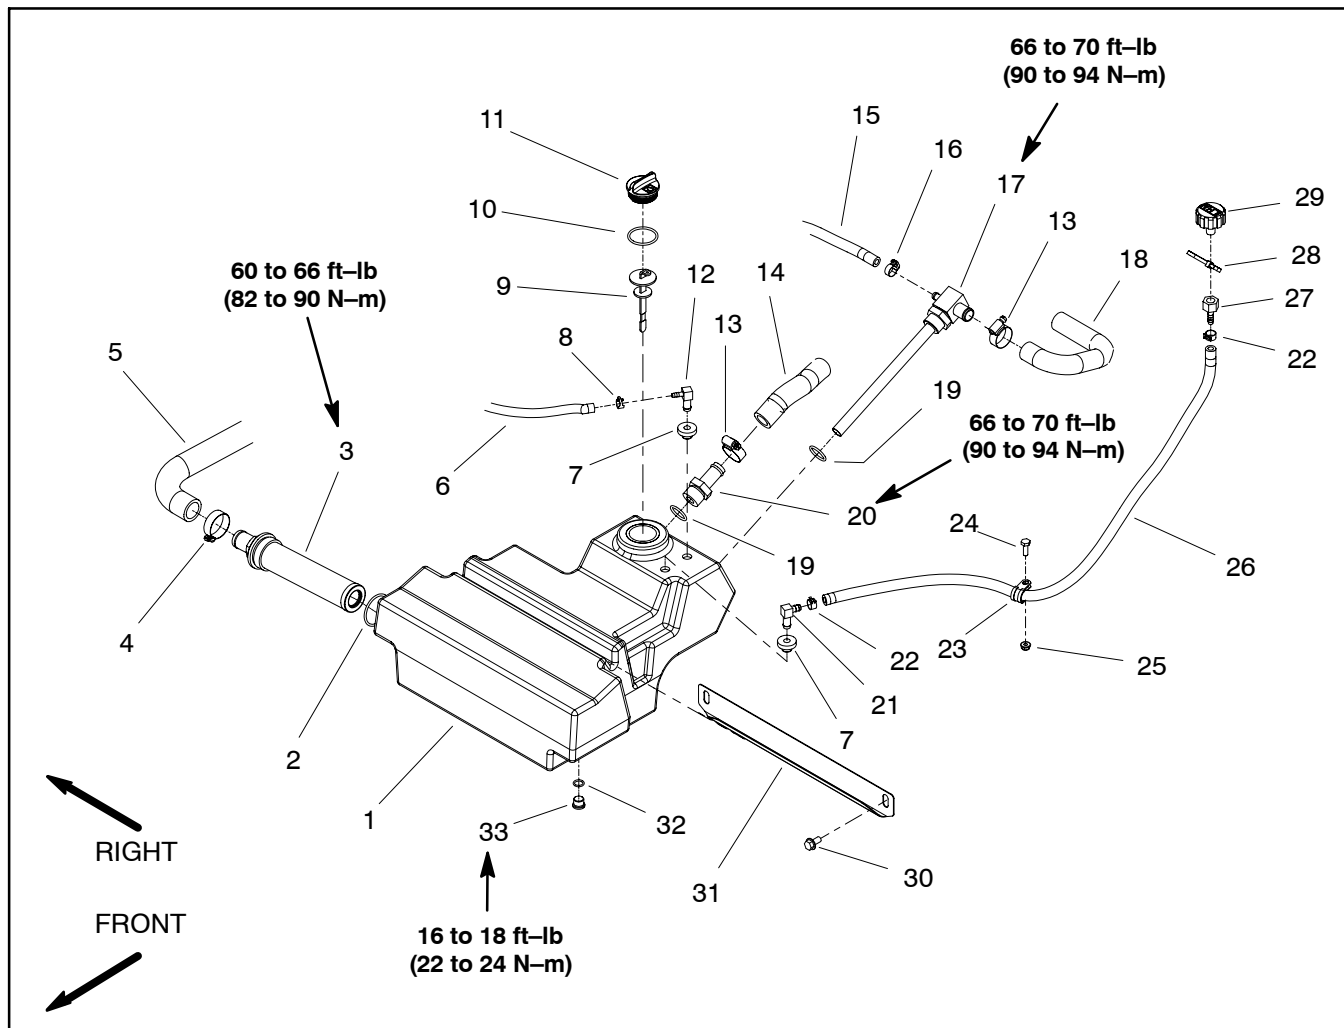
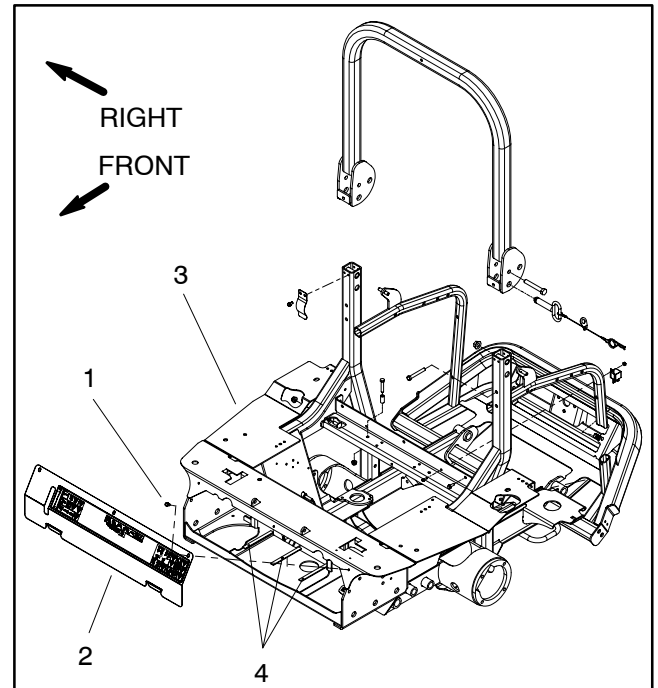

Figure 29
Figure 30
Hydraulic Tank Removal (Fig. 29)
3. Remove front cover from machine (Fig. 30).
9. Remove two (2) washer head screws and tank support that retain hydraulic tank to frame.
12. As needed, remove fittings from hydraulic tank using Figure 29 as a guide. Discard and replace any removed O-rings.
Hydraulic Tank Inspection (Fig. 29)
Hydraulic Tank Installation (Fig. 29)
2. Attach removed fittings with new, lubricated O-rings to hydraulic tank using Figure 29 as a guide (see Hydraulic Fitting Installation in the General Information section of this chapter). Tighten fittings to torque values identified in Figure 29.
3. Position hydraulic tank to machine. Secure tank to frame with tank support and two (2) washer head screws.
7. Secure front cover to machine (Fig. 30).